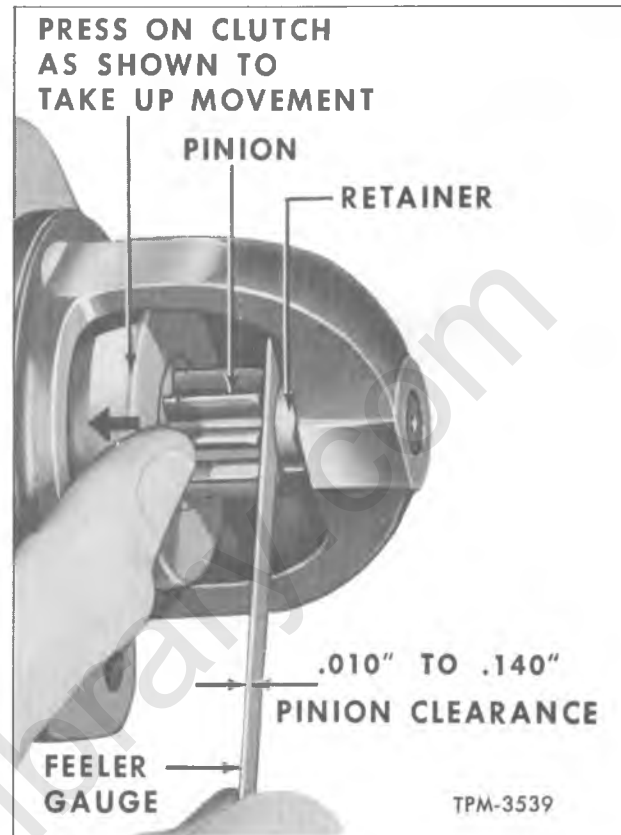

Figure 7—Measuring Pinion Clearance
2. After energizing the solenoid (clutch shifted forward), push pinion back toward commutator to take up possible slack. Check clearance with a feeler gauge as shown in figure 7. If clearance is not within 0.010" to 0.140", disassemble and replace worn parts in solenoid and shift lever linkage.